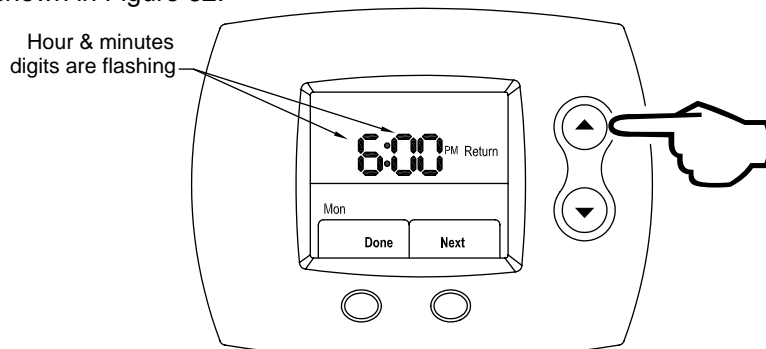

Figure 62
Step 15: Press the **UP** (increase time by 15 minutes) or **DOWN** (decrease time by 15 minutes) buttons to select the Return period start time. The time increments in 15-minute intervals just as it did for the other periods. This is shown in Figure 62.